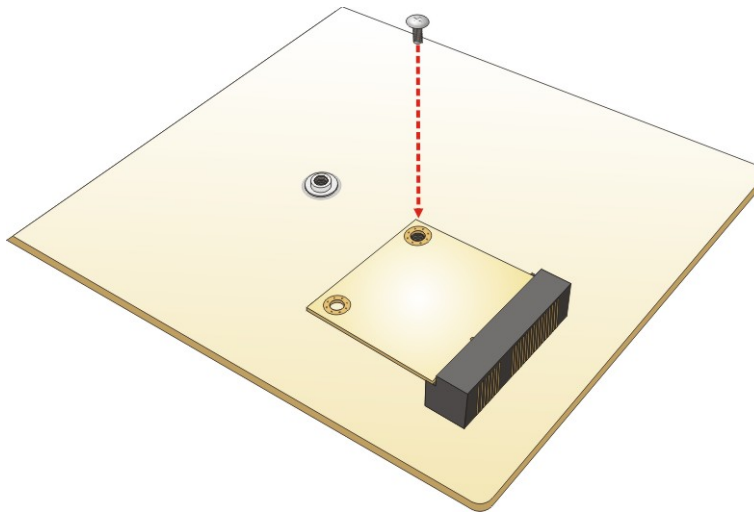

Figure 4-11: Securing the Half-size PCIe Mini Card
Step 5: Secure the half-size PCIe Mini card with the retention screw previously removed (**Figure 4-11**).